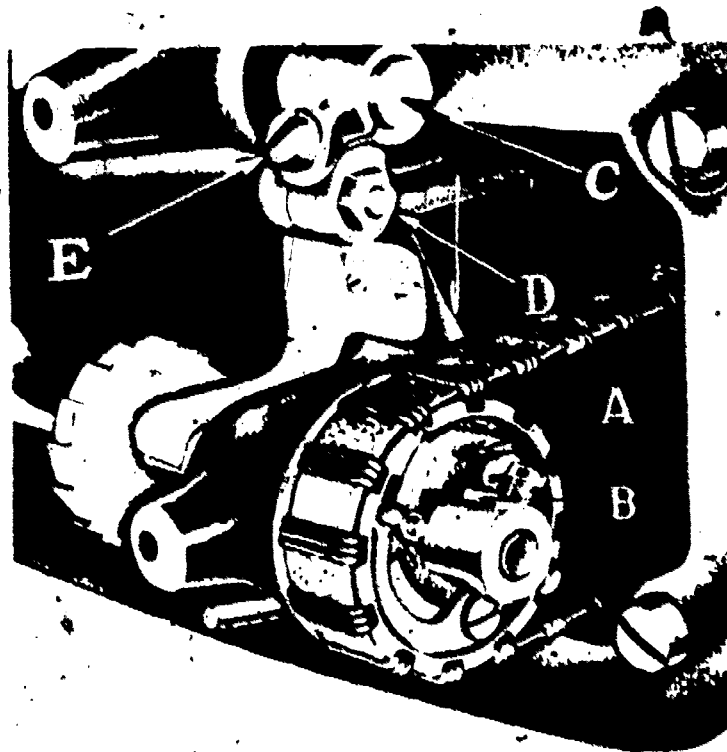

Figure 17. Safety Clutch.
3. Check the marked setscrew on the safety clutch pulley (figure 17) to make sure the setscrew engages a groove cut in the hook